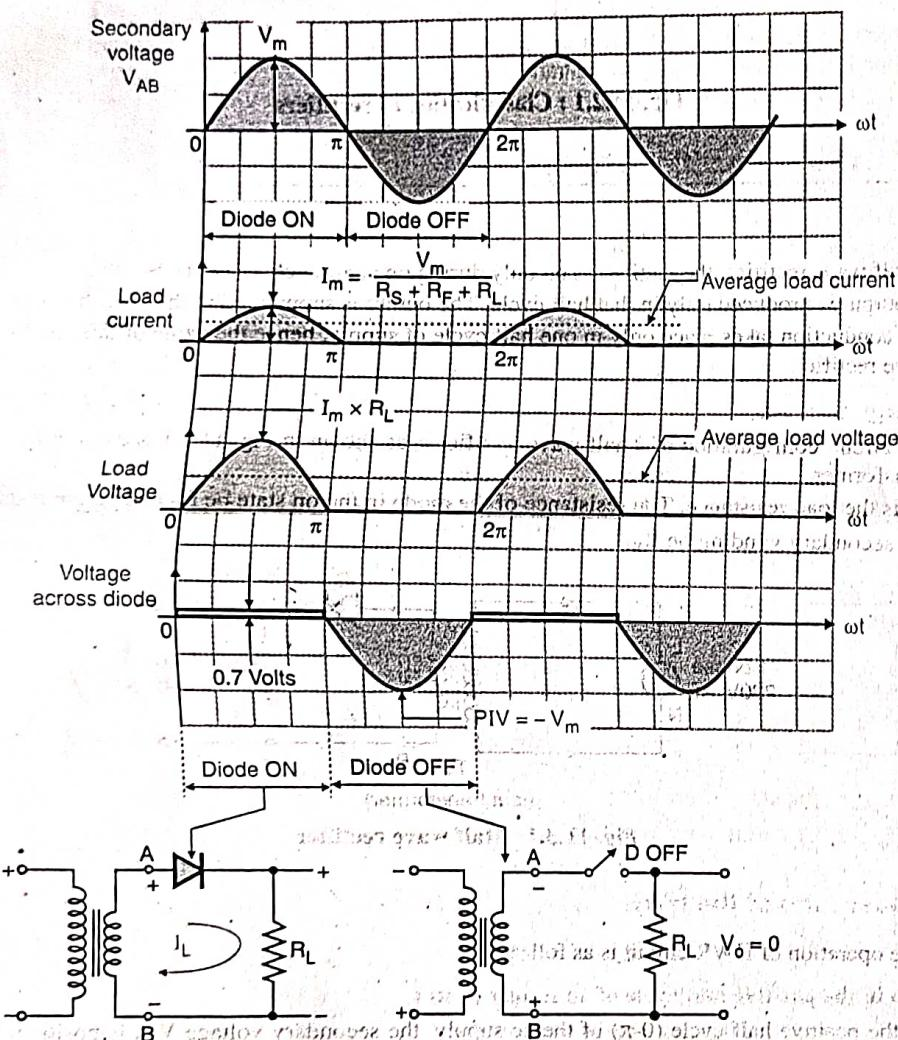

Fig. 11.3.3(a): Waveforms for the HWR
- The waveforms for HWR are shown in Fig. 11.3.3(a).